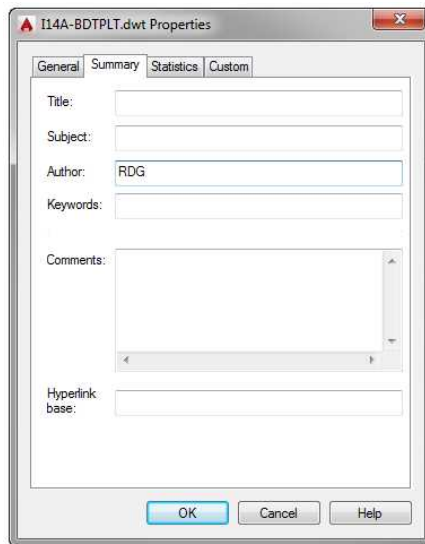

FIGURE 14.15: Changing the Author drawing property
7. From the Summary tab, change the value of the Author field to your initials (see Figure 14.15).